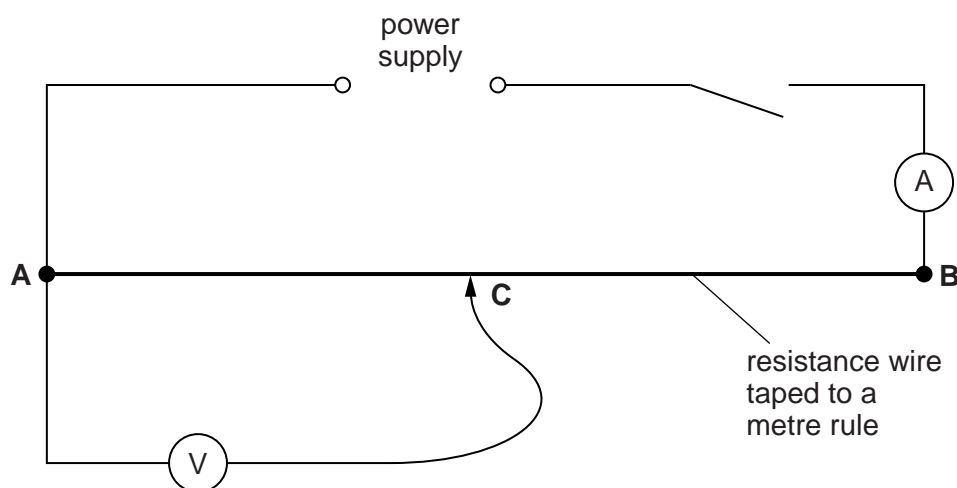

Fig. 3.1
- (iii) Ammeter capable of measuring the current in the circuit shown in Fig. 3.1 with a minimum precision of 0.02 A (see note 2).
- (vi) Two suitable terminals (e.g. crocodile clips) attached to the constantan wire at the ends of the metre rule so that connections can be made to the circuit shown in Fig. 3.1.
- (viii) Sufficient connecting leads to set up the circuit shown in Fig. 3.1.
1. The circuit is to be set up for the candidates as shown in Fig. 3.1.
Check that the circuit is set up as shown in Fig. 3.1.